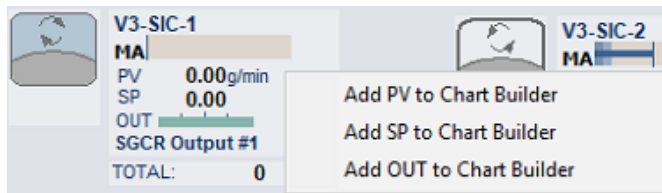

Figure 3.47. Control module example and parameters that can be added to Chart Builder.
1. On the **Main** screen, right-click a control module. The context menu opens, displaying several parameters you can add to **Chart Builder** (Figure 3.47).